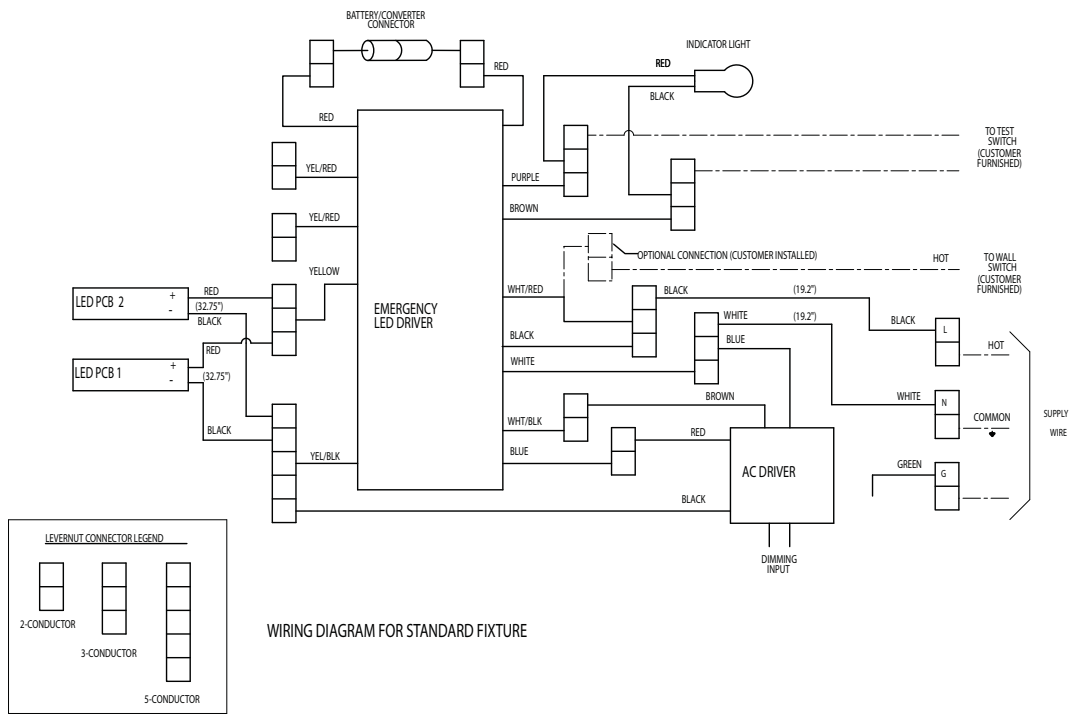

Figure 15
1. Open AC driver cover by loosening the four (4) #10-32 x 0.75" stainless steel cover screws (see Figure 12). All components in the fixture are pre-wired so only line in, neutral and ground need to be connected in the fixture to the lead wires (or terminals) per the wiring diagrams (see Figures 15 and 16) using methods that comply with all applicable codes. Terminate the equipment grounding conductor (green) first, the common (white) next, and finally, the line voltage (black) last. Tighten all electrical connections. **NOTE:** Standard openings are 3/4" NPT.
3. If no through feed (TF) or switch connections, proceed to Step 9.
4. For the TF suffix, use factory supplied fish line to pull through wire conductors for wiring to driver or to daisy chain multiple fixtures (maximum of five (5)). Refer to schematic for wiring. Only four (4) conductors maximum are allowed through the hub closest to the driver and four (4) conductors maximum are allowed through the hub farthest from the driver.
6. Remove the two (2) clamps (two screws per clamp) that secure the EM driver; remove the old EM driver.
8. Reinstall the new EM driver into the luminaire with the leads facing the AC driver, ensuring the EM driver is in direct contact with the luminaire housing and no wires are being pinched between the EM driver and the housing. Secure with two (2) clamps (2 screws per clamp) and tighten to 20 in.-lb. (2.3 N-m).
9. Reconnect the EM driver leads per wiring diagrams (see Figures 15 and 16) and tuck the wires and connectors neatly into the housing.